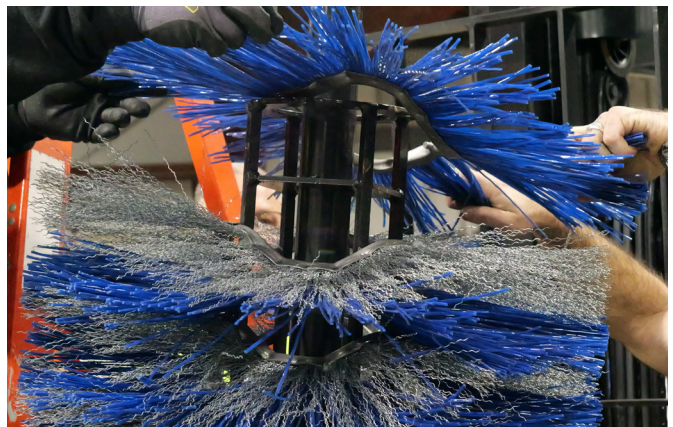

Figure 12
3. Install additional wafers with the convolutions (waves) opposing each other to expand the broom [Figure 12].